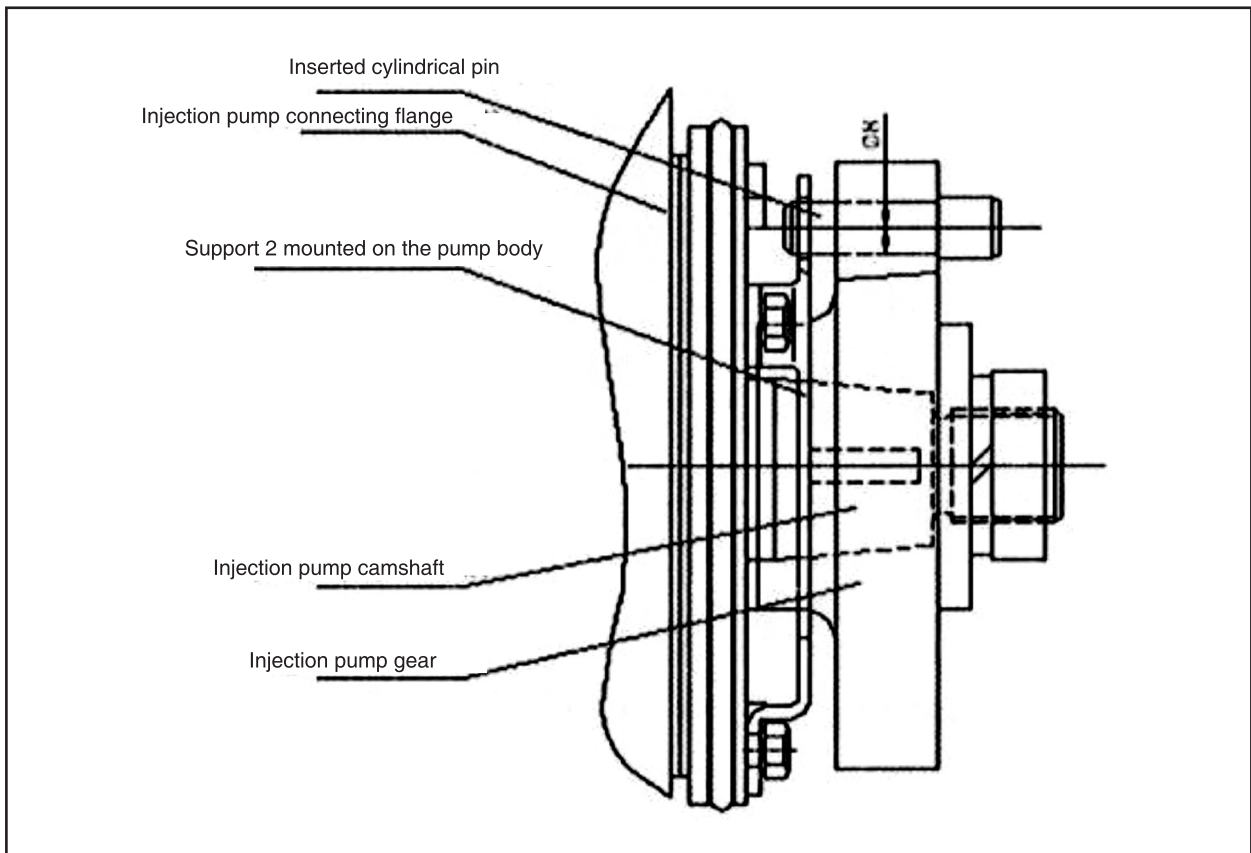

Figure 3-15
Fuel injection pump end face is mounted with mounting flange and mounting slot of flange end face is mounted with O-ring. Adapting flange of injection pump camshaft input end is mounted with fuel supply starting point locating hole. When the hole aligns with hole of support (2) mounted on the pump body (insert a $\Phi 8$ cylindrical pin in the holes, see Fig. 3-15), fuel injection pump is at fuel supply starting position.